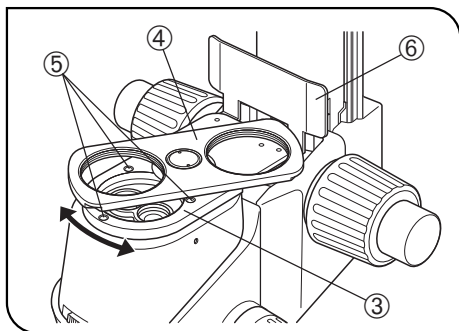

Fig. 28
4. Place the revolving nosepiece mount ③ (with its objective mounts ④ facing upward) where the objective mount has been by aligning the screw holes.
Using the Allen wrench (for M3 screws), clamp the revolver mount with the provided three clamping screws (M3, 6 mm long) ⑤. (Fig. 28)
★ As the screw holes may be hidden behind the objective mounts ④, clamp the nosepiece mount while rotating it. (Fig. 28)
6. Attach two objectives onto their respective objective mounts ④ by screwing. (Fig. 28)